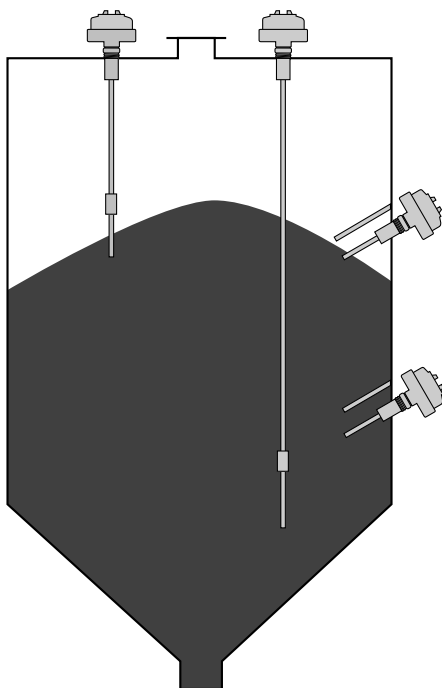

Figure 1
- The switch may be installed vertically or horizontally (at a downward angle) as shown in Figure 1 on page 3.